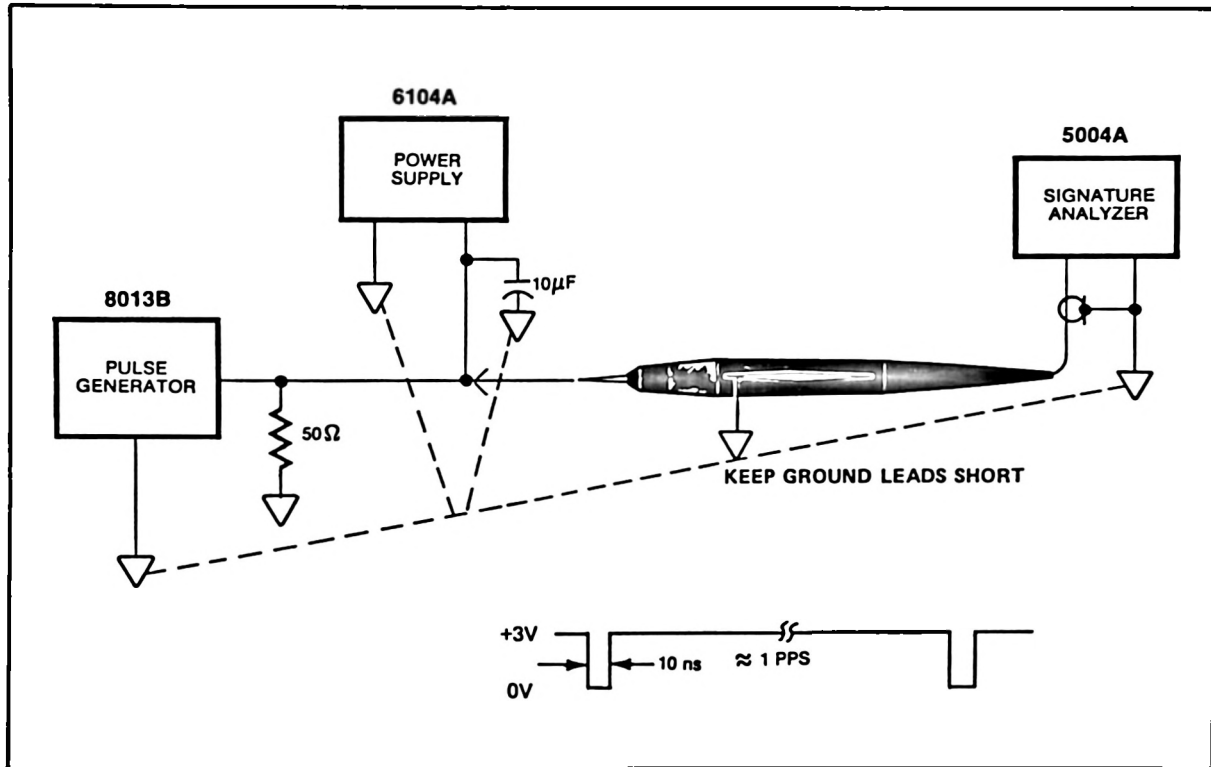

Figure 4-3. Negative Pulse Performance Test Setup
4-9. With test equipment connected as in Figure 4-3, proceed as follows:
- b. Adjust pulse generator to give waveform at probe tip as shown in Figure 4-3, with a repetition rate of one-pulse-per-second. Probe indicator should flash off approximately once per second.